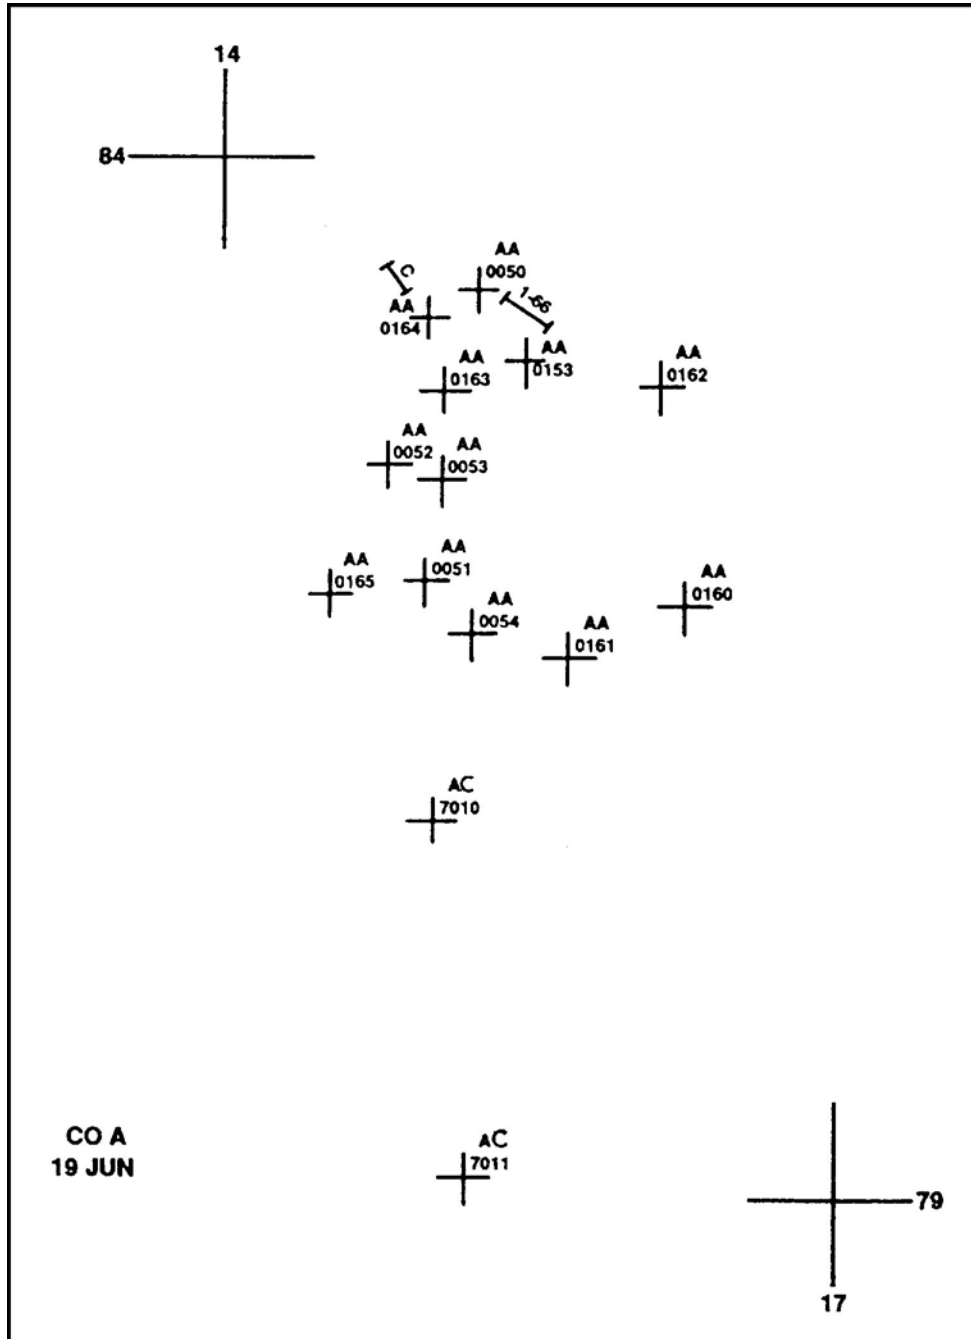

Figure 1. Target overlay.
4. The FSO must ensure that the platoon FOs, platoon leaders, and FDC computers know the fire plan. Target overlays (Figure 1) should be provided to them and to the company commander, if time permits.